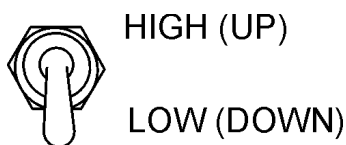

Figure 67. Engine Speed Switch
2. Set the engine speed switch (Figure 67) to the idle (low) position.